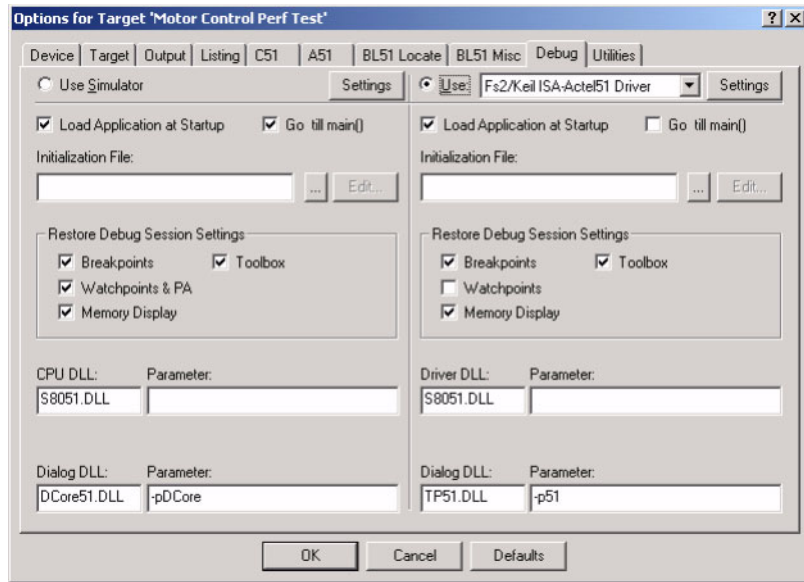

Figure 5-4. Keil μ Vision2 Options for Target, Debug Tab
2. On the *Debug* tab, select the proper driver for communicating with the target board. Select *Fs2/Keil ISA-Actel51 Driver* from the drop-down list and ensure that the *Use* button next to it is selected (otherwise the debugger will open the simulator instead of connecting to the target board). *Load Application at Startup* should also be selected. (See Figure 5-4 on page 39.) If the FS2 driver is not present in the drop-down list, exit the Keil software and reinstall the FS2 tools.